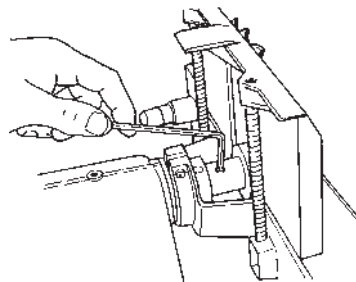

Figure B-106
79. Loosen the accessory mount lock and remove the extension table. Loosen the table height lock and remove the worktable. Place the saw blade and arbor in the lower saw guard cover (204).
80. Fit the lower saw guard's clamp on the spindle quill (59). Line up the arbor set screw with the spindle knob's set screw (where the spindle flat is located). Use a 5/32" Allen wrench to tighten the arbor set screw, as shown in Figure B-106.